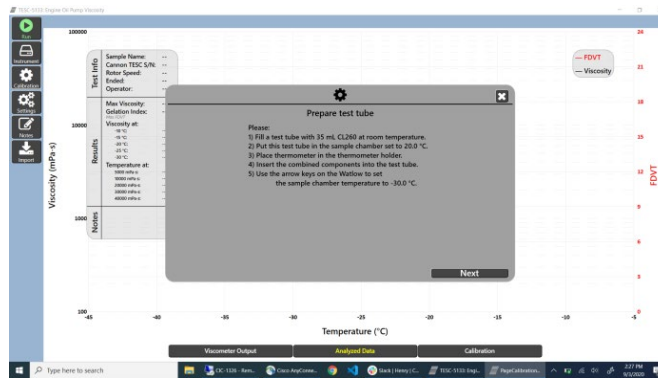

Figure 45: Calibrate Temperature Wizard
3. The first window to appear in a sequence of windows (shown in Figure 45) provides a guide on calibrating the instrument along with on-screen prompts. The calibration process may take several hours. Follow the instructions on each window, pressing the **Next** or **Yes** buttons accordingly.